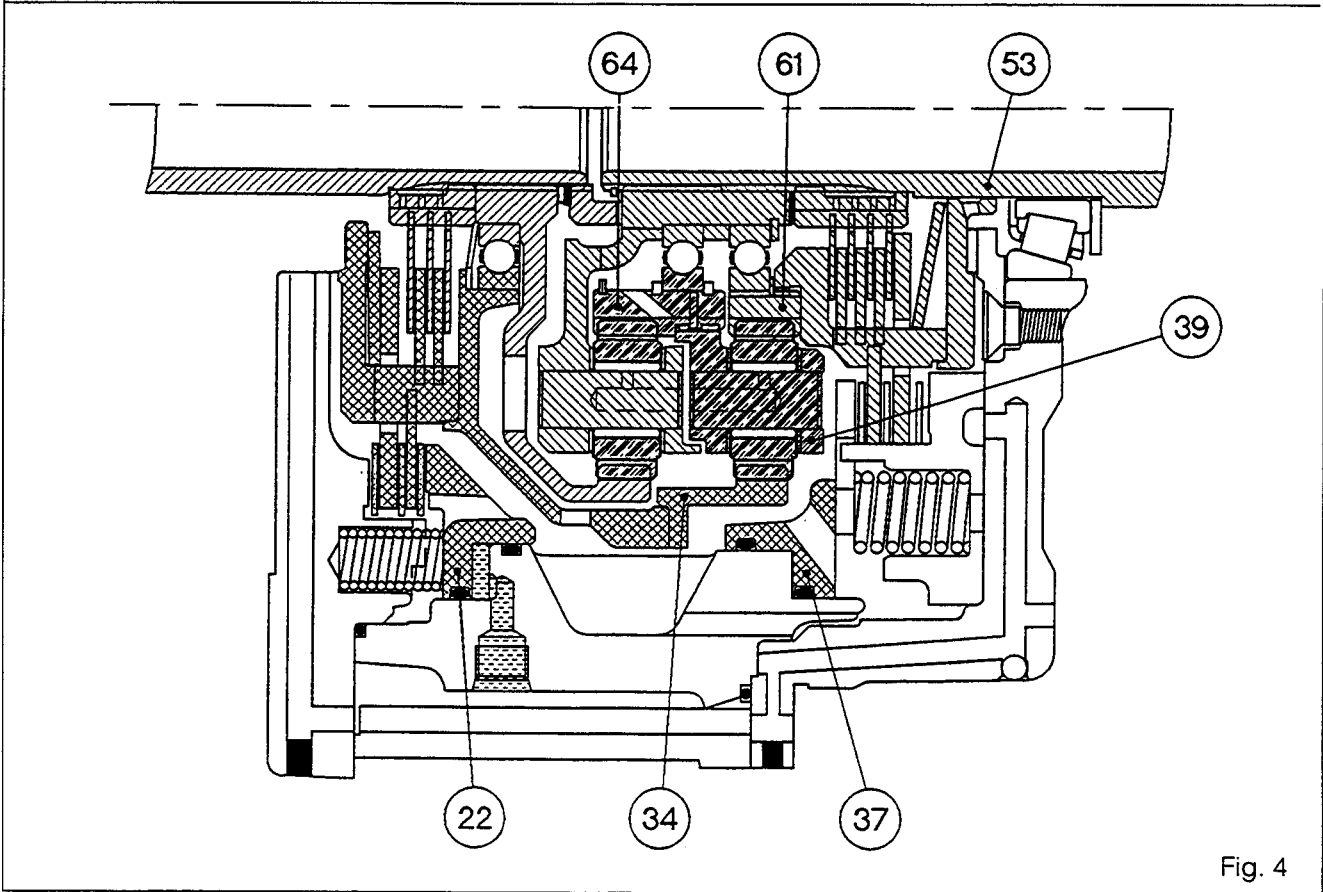

Fig. 4
**Ratio B: Reduction 1/1.386 (Fig. 4)**